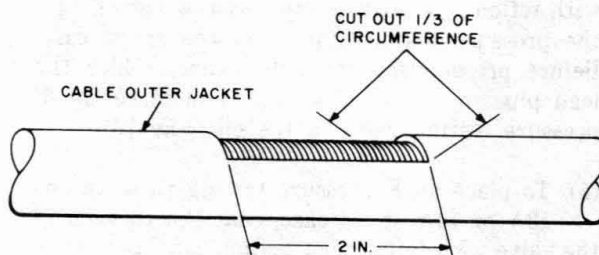

Fig. 12—Cutout in Outer Jacket
- (1) As illustrated in Fig. 12, mark the cutout area on the outer polyethylene jacket on top of the cable at the pressure fitting location. Using a B carding brush, scuff the surface of the jacket for 1/2 inch around the marked area. Cut out and remove the outer polyethylene jacket inside the marked area.